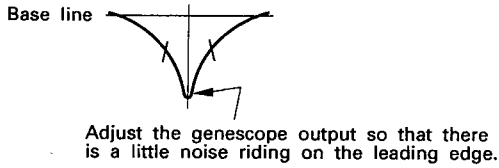

Fig. 9
1. Feed in a weak signal from the genescope. Adjust T202 for maximum gain and the waveform indicated in Fig. 9.